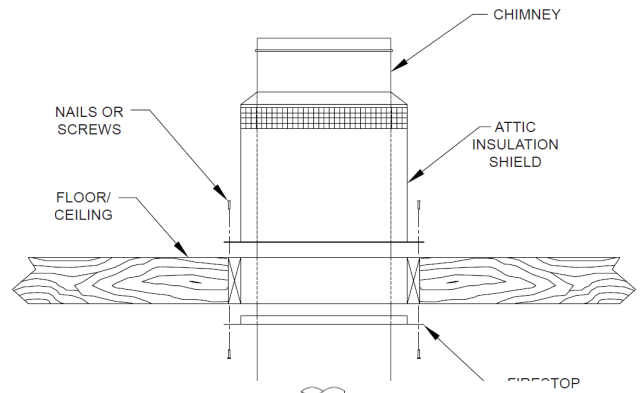

FIGURE 68
- Secure the Attic Insulation Shield to the top of the framed opening using nails or screws (**Figure 68**).